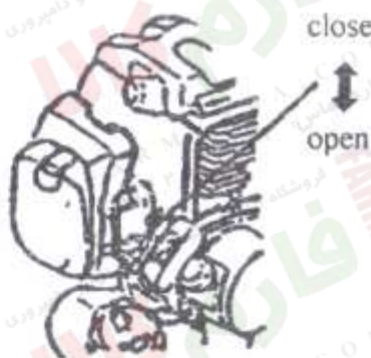

Fig.11
- 4) Push the stop switch to start position.(Figure 11)